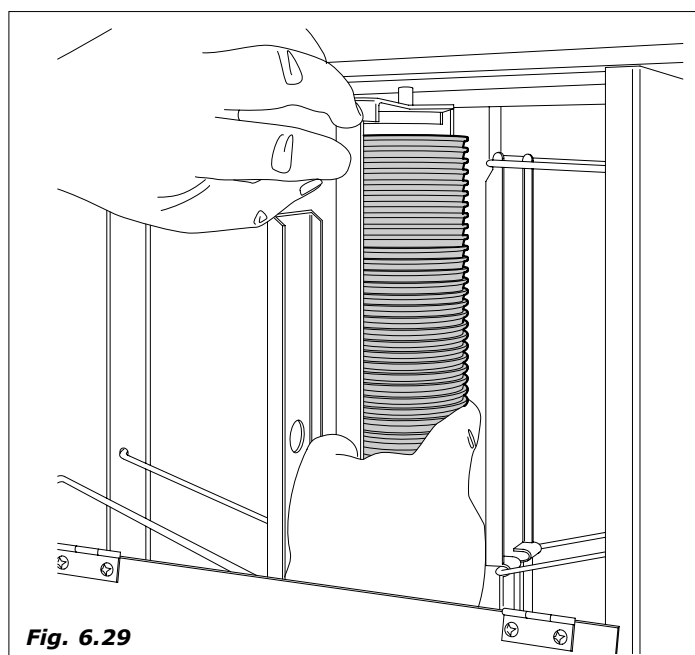

Fig. 6.29
- insert the first cup column in the central- cup holder + section (Fig. 6.29)